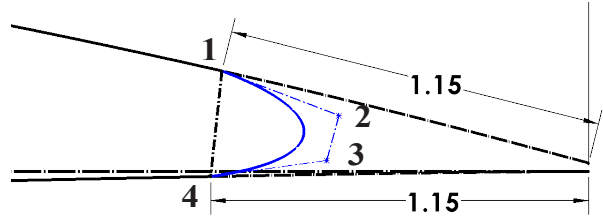

Fig. 36
Step 24. Sketch a **4 control vertex point Spline** between endpoints of trailing edge spline, **Fig. 36**. Press Escape to end spline.